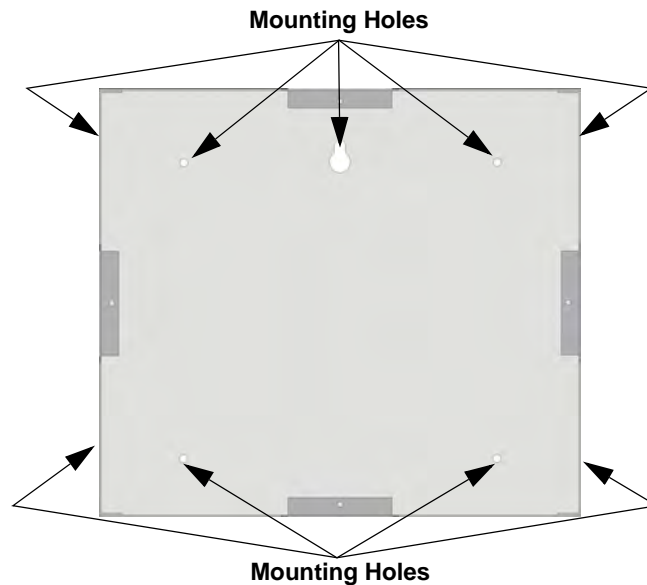

Figure 4.27 Back Box Mounting Holes
The optional Model RA-2000 Remote Annunciator, shown in Figure 4.27. The RA-2000 can be surface or flush mounted. . It is available in gray color as RA-2000 GRAY.
1. The back box dimensions are 9¼" W x 8 3/8" H. The minimum depth required is 2". The back box can be mounted prior to the complete installation of the RA-2000 using any of the mounting holes shown in Figure 4.27.